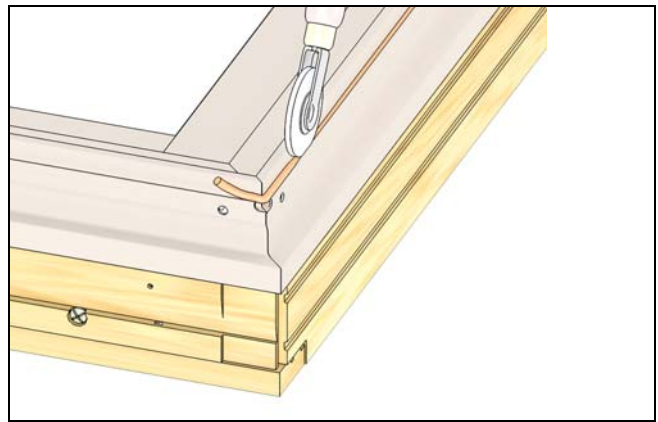

Figure 18
6. Carefully turn assembly over (exterior side up). Apply frame kerf foam weather strip to the horizontal accessory kerf at mullion on both windows with a screen spline roller or similar tool. Weather strip should run just up to the vertical accessory kerf and around corner 1" (25). See Figure 18.